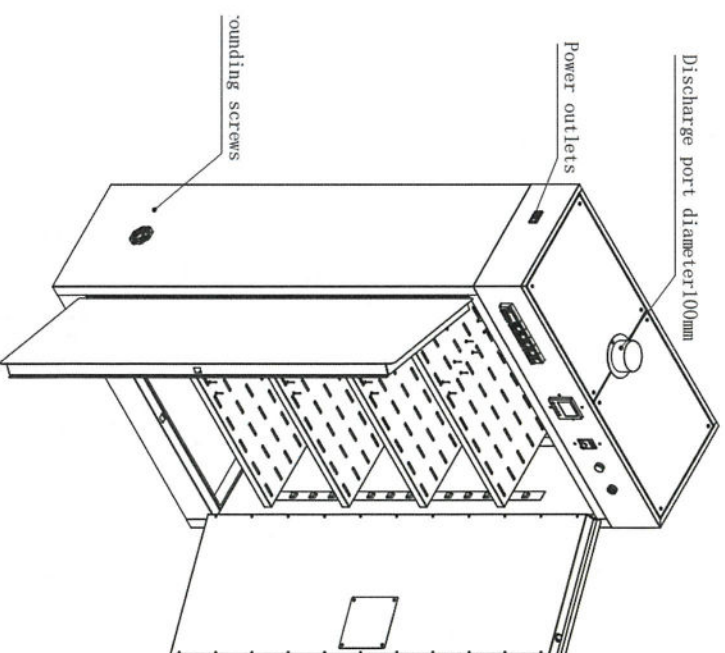

Figure 1
1. Power-on operation process: as shown in Figure 1, after the cabinet is placed in the designated position smoothly, use the compliant grounding wire to connect the grounding screw at the bottom of the left side of the cabinet to the designated grounding position of the building, use the key to open the cabinet door after the grounding is completed, take out the power cord equipped with the prefix in the cabinet and insert it into the pinidg power socket above the left side of the cabinet, and turn on the switch of the power socket to the energized state with the red light on. Users can connect the external exhaust according to the regulations of the local regulatory department, and can use PVC pipes, nylon cloth ducts and other pipes reserved at the top of the docking cabinet As shown in Figure.